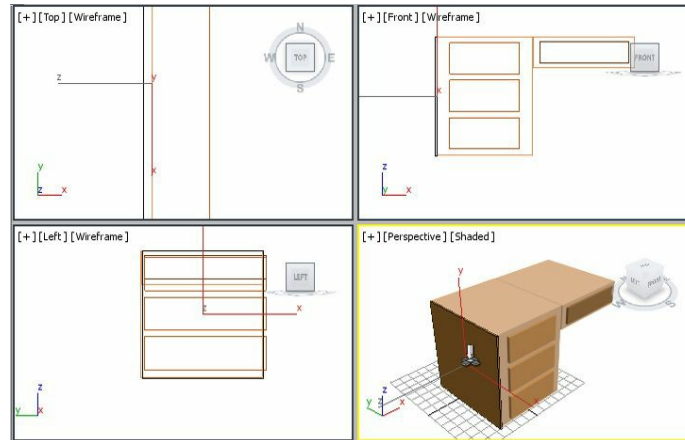

Figure 2-54 Alignment of *left face001* with left side of the left box
3. Choose the **Select and Place** tool from the **Main Toolbar**. In the Perspective  viewport, move the cursor over *left face001* and drag to align it with the left side of *left box*, as shown in Figure 2-54.